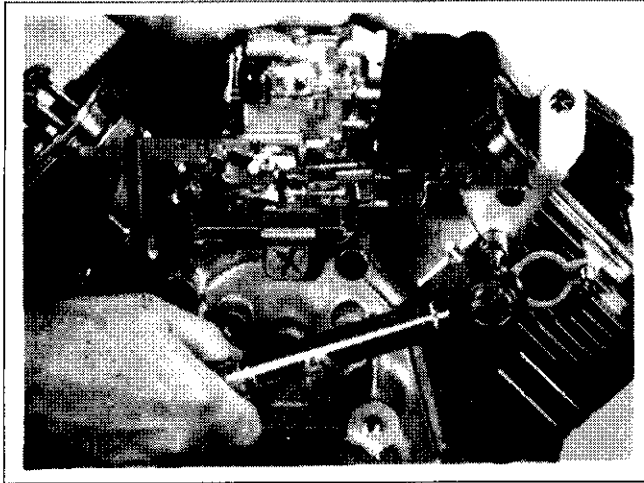

Figure 11-70. Tightening Speed Control Bracket.
2. Install the throttle control bracket to the cylinder heads using the four hex. flange screws. Torque hex. flange screws to **7.3/10.7 N-m (65/95 in. lb.)**. See Figure 11-70.